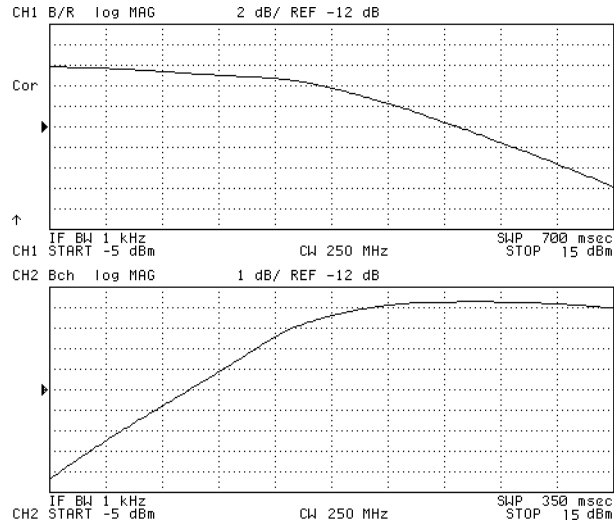

Figure 10-16.
6. Press **[Display]** DUAL CHAN on OFF to ON off to display both channel (see Figure 10-16). Note that you must subtract 6 dB from the input value readout. This is necessary because the input signal is attenuated by the power splitter that is between the RF OUT and the DUT.